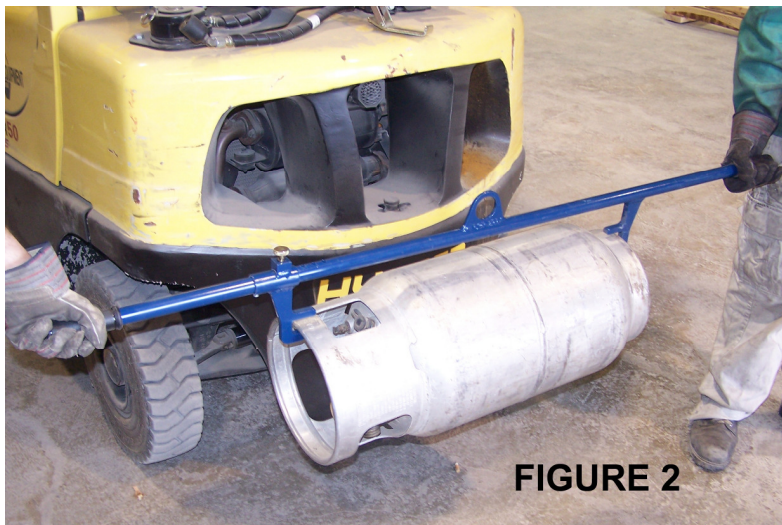

FIGURE 2
4. Insert the fixed grab hook into the flange at one end of the tank. Apply upward pressure to the sliding grab hook detent pin and move the hook onto the flange on the other end of the tank. Release the detent pin, allowing it to seat in the handle bar. The pin must be fully seated before attempting to lift the tank (Figure 2).
5. Lift the propane tank off the forklift or other equipment and move it to its proper place of storage. Either two people, a crane, or a hook equipped forklift must be used to lift the tank (Figure 2).